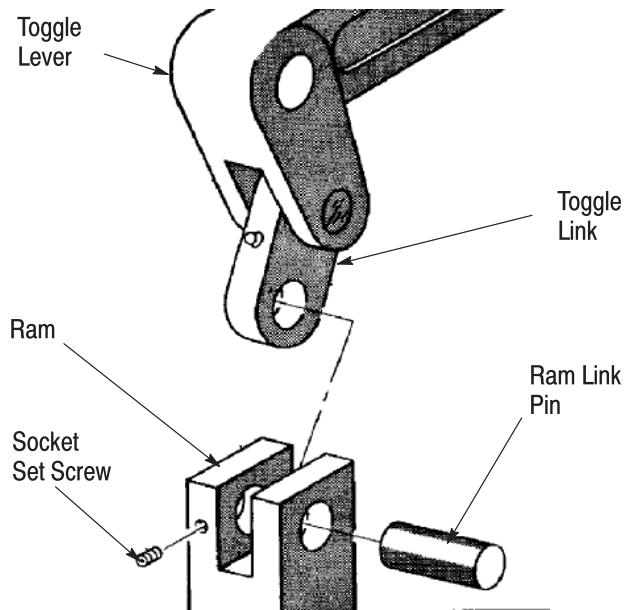

Figure 4
8. Loosen the socket set screw shown in Figure 4.
1. Attach the ram to the toggle link by inserting the ram link pin. See Figure 4.